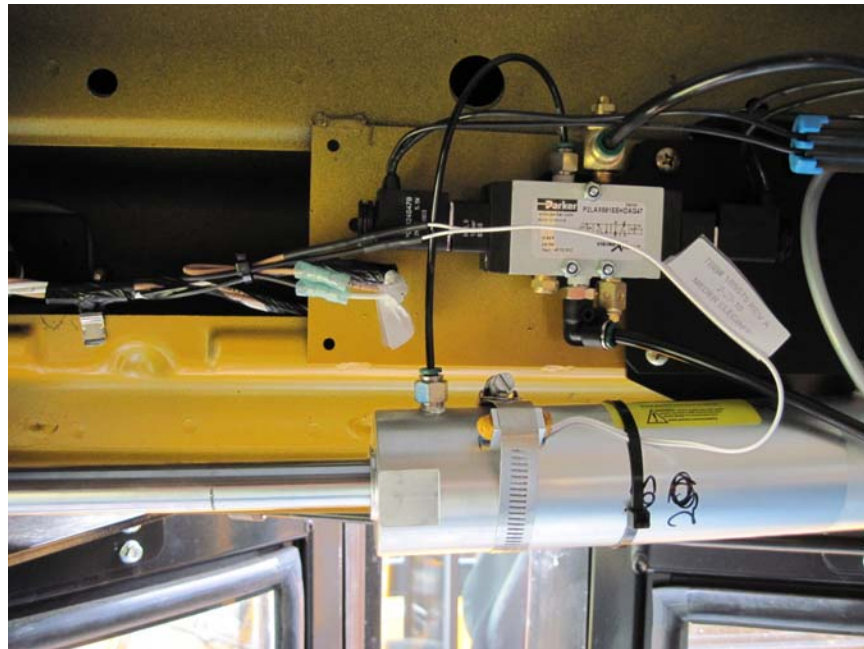

Figure 10
9. Bundle and tie wrap the excess wire at the body harness. Leave enough wire for air actuator to move freely during operation. DO NOT tie or pull on heat shrunk area of wire. A resistor is installed in this location. **Figure 10**